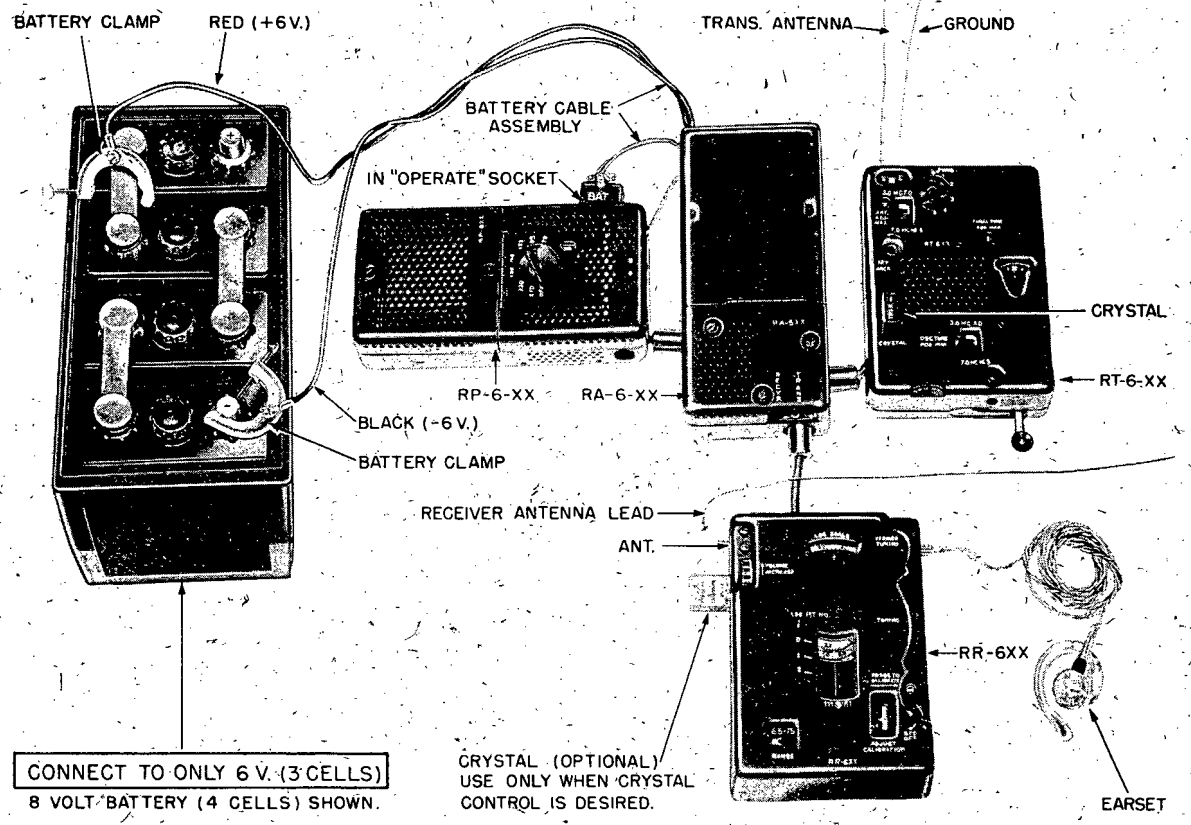

Figure 6. Radio Station RS-6-XX battery operation hook-up
c. Connect equipment as shown in Figure 6 (receiver crystal shown is optional).
(1) Use only a 6-volt storage battery source. If only an 8 or 12-volt storage battery is available, connect only across 6 volts (3 cells) of the battery. See Figure 6.
(2) The Jones plug marked BAT must be inserted in the OPERATE receptacle on Power Supply RP-6-XX before the battery clamps are connected to storage battery, otherwise "hot" terminals will be exposed and equipment may be damaged.